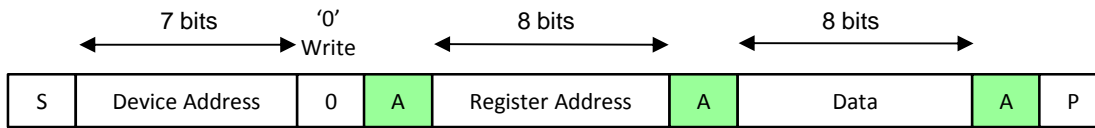

Figure 4. I2C Write – Slave Receiver Mode
1. **Slave Receiver Mode (Write Mode):** Serial data and clock are received through SDA and SCL. After each byte is received an acknowledge bit is transmitted. START and STOP conditions are recognized as the beginning and end of a serial transfer. Address recognition is performed by hardware after reception of the slave address and direction bit (see Figure 4 for Interface). The slave address byte is the first byte received after the master generates the START condition. The slave address byte contains the 7-KTD2150 address followed by the direction bit (R/W), which, for a write, is 0. After receiving and decoding the slave address byte the device outputs an acknowledge on the SDA line. After the KTD2150 acknowledges the slave address + write bit, the master transmits a register address to the KTD2150. This sets the register pointer on the KTD2150. The master may then transmit zero or more bytes of data, with the KTD2150 acknowledging each byte received. The address pointer will increment after each data byte is transferred. The master generates a STOP condition to terminate the data write.